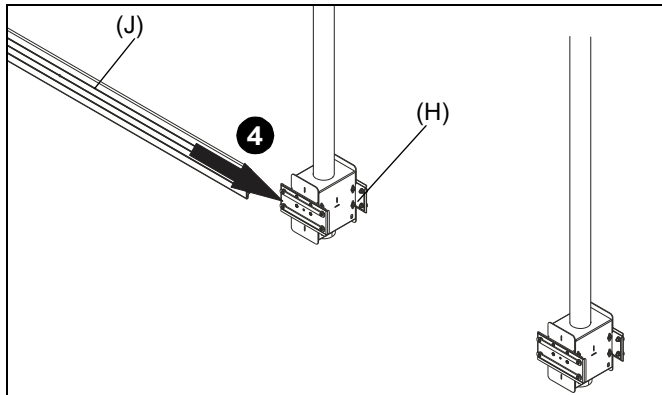

Figure 4
4. Slide X-large rail (J) onto one of two assemblies (H) attached to column. (See Figure 4)